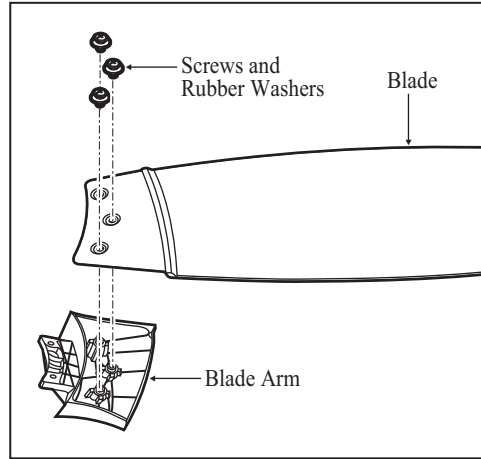

Figure 15
1. Attach the blade arm to the blade using the screws with rubber washers provided. Start a screw into the blade arm and do not tighten. Repeat for the two remaining screws and rubber washers. (Fig. 15)